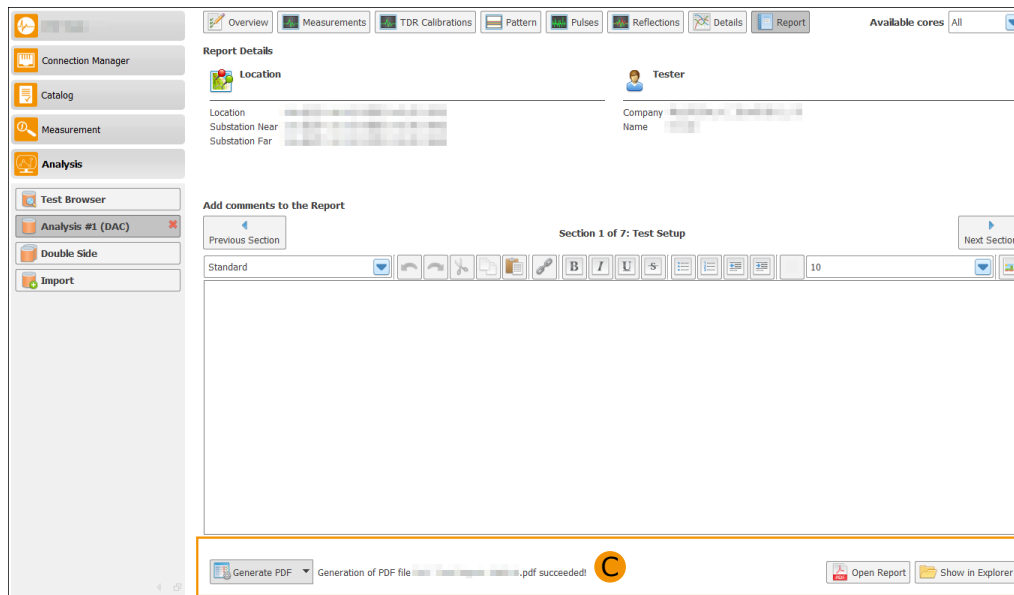

Figure 8.25: Successful generated PDF Report
The tool button is used to selected *Generate PDF*. The user interface displays the option for the generation of the PDF report. The report will be created by a click onto the *Generate PDF* button (C). After a successful generated report (cf. Figure 8.25) the name of the report and two additional buttons are shown. With button *Open Report* it is possible to open the PDF file inside a PDF viewer and *Show in Explorer* opens the Windows Explorer where the PDF file is located.
The procedure for generating a CSV report is similar to generating a PDF. Instead of *Generate PDF* the tool button has to be set to *Generate CSV*. By clicking the button *Generate CSV*, the CSV report will be generated. When the report was successfully generated, the name of the file will be displayed together with a success message, similar to a successful PDF report generation (cf. Figure 8.25). The resulting CSV file will be formatted in UTF-8 text file. Values are separated by a single colon character ','. Character string are contained in ". The file contains the meta data of the measurement in the first two lines, followed by an empty line. Line 4 and 5 contain the average values for the capacitance, frequency and temperature, which are again followed by an blank line. After this blank line, a line containing the header information of the measurement is added. The following lines contain the exact measured data of each shot. The line of the last shot is followed by a blank line. The last line in the file contains the location information for all point found during the analysis.